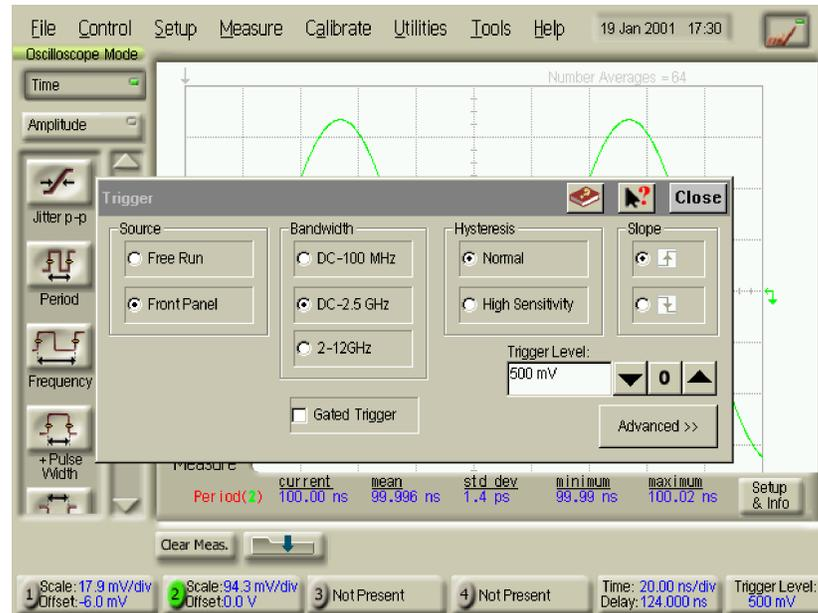

Figure 2-8. Setting Trigger Level for Measuring Time Interval Accuracy
- 21 On the DCA screen, press Trigger Level and set the Trigger Level to 500 mV. See Figure 2-8. Alternatively use the Trigger knob and adjust the Trigger Level to 500 mV.